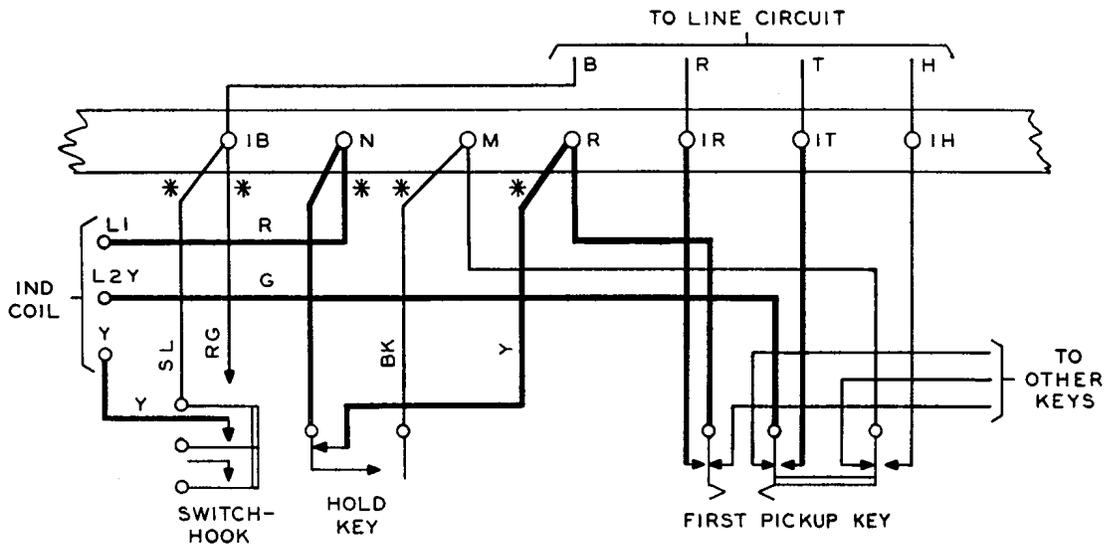

Fig. 1 - 1A System
2.03 Key telephone set internal wiring changes and connections are shown in Fig. 1 and 2.
KEYS ARE WIRED IN THE SHOP FOR USE WITH KEY TELEPHONE SYSTEM NO. 1A, REQUIRING BALANCE AND HOLD LEADS AS SHOWN IN FIG. 1, BELOW. CONNECTIONS MUST BE CHANGED FOR USE WITH KEY TELEPHONE SYSTEM NO. 1A1 REQUIRING AUXILIARY CONTROL LEADS AS SHOWN IN FIG. 2.